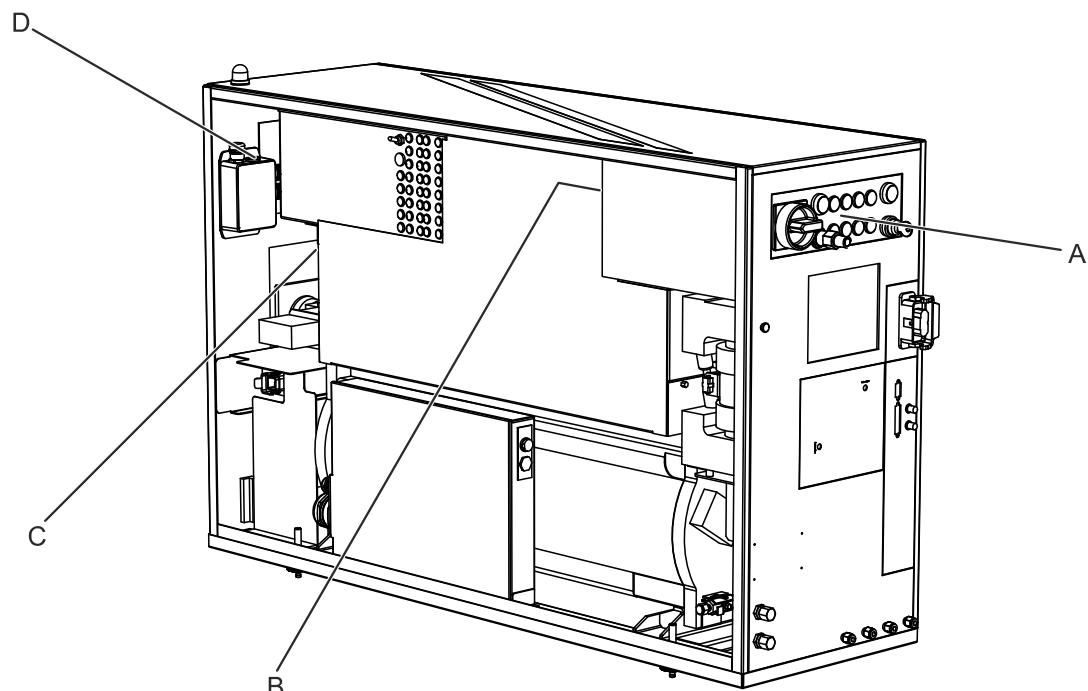

Figure 131: Location of Fuses
The user-serviceable fuses of the COMPexPro are either located externally on the operating panel (see Figure 131, A) or internally on the electrical module (B), 24 V power supply fuse block (C) or distribution box (D). A marking or label close to or on each individual fuse cover clearly indicates the fuse number and rating of the respective fuse.